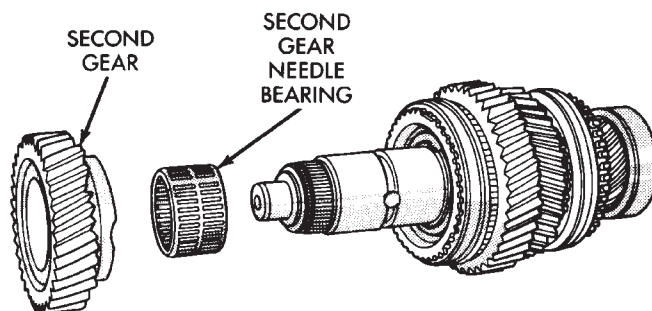

Fig. 41 Second Gear And Needle Bearing Removal
(6) Remove second gear and needle bearing (Fig. 41).